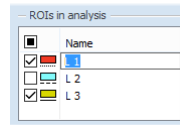

Figure 396 – Renaming the ROI with predefined name L3
3. Change the name directly in the list (see Figure 396).